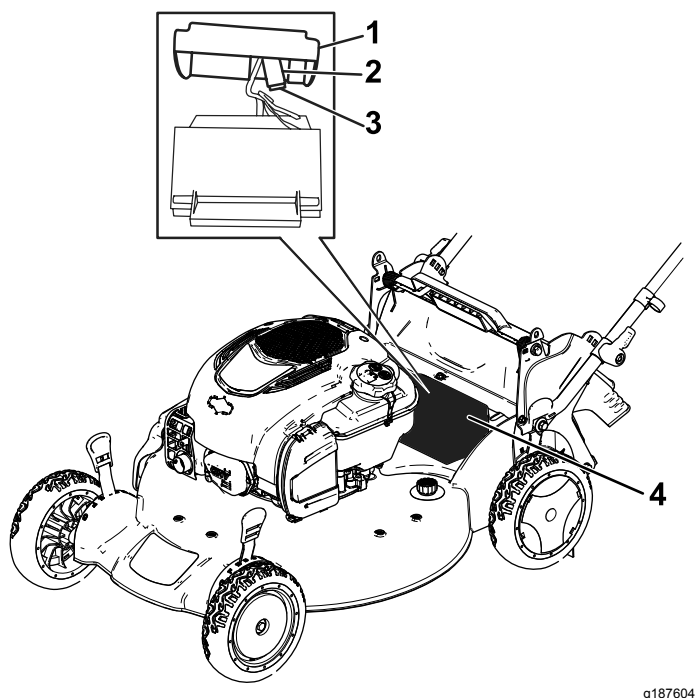

Figure 42
1. Remove the cover from the battery compartment (Figure 42).
2. Pull out the battery and locate the fuse (Figure 42).
3. Replace the fuse in the fuse holder (Figure 42).
4. Install the cover over the battery compartment (Figure 42).